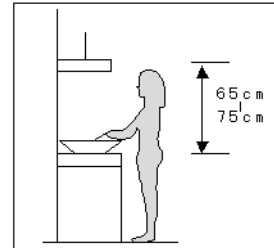

Figure 2
- 1、 The cooker hood should be installed 65~75cm from the stove top for safety and best results. Fig.2.